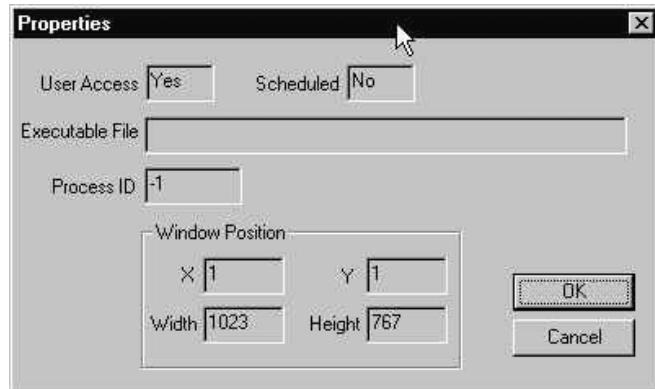

Figure 7.17. Properties for an application
- 2) **DISPLAY PROPERTIES:** Right click again and select **Properties** from the drop-down menu. This will display the **Properties** window (Figure 7.17)